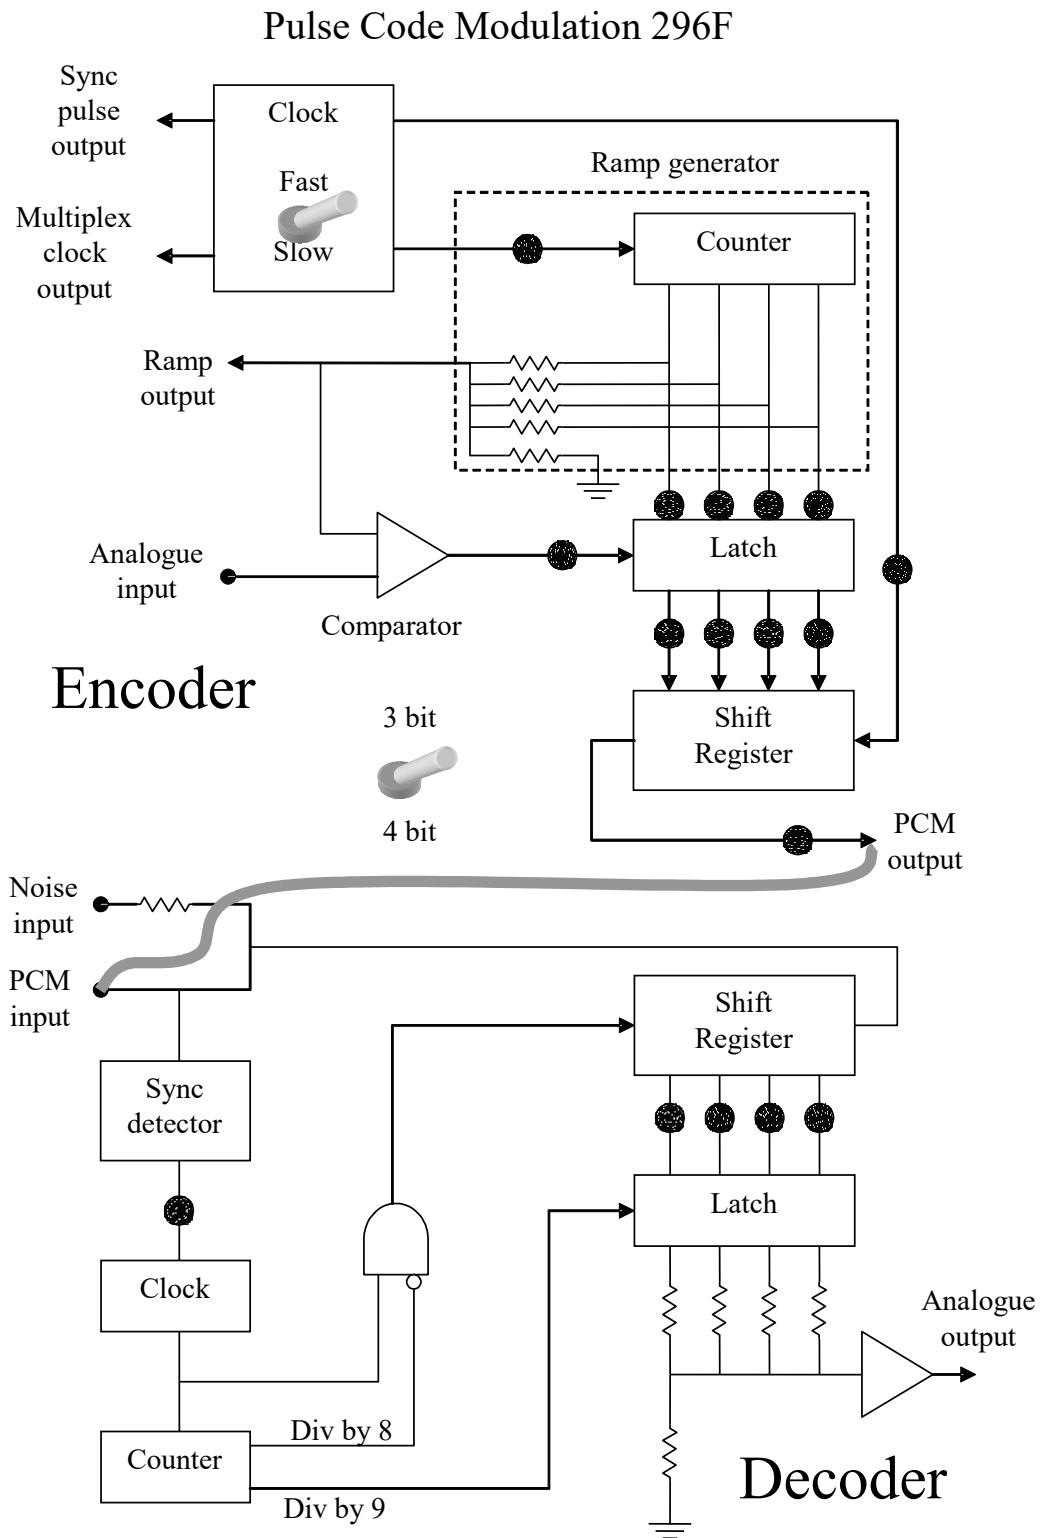

Figure E6.1 PCM Encoder and Decoder module (296F)
PCM is a very well known type of digital pulse modulation system which provides the basis for voice coding in Integrated Services Digital Network (ISDN). The PCM Module 296F is a useful learning module. It contains both a PCM encoder and a PCM decoder. Figure E6.1 shows the Module 296F.
1. Referring to Figure E6.1, set the 3 bit/4 bit switch to the 4 bit position. Set encoder's clock to SLOW. Plug the 296F Module to the power supply.